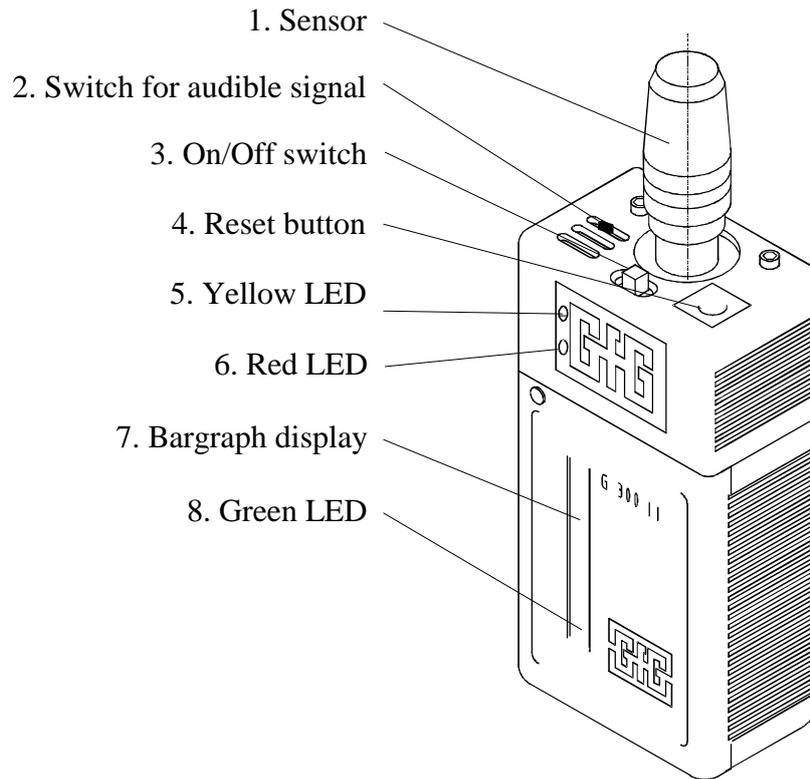

Fig. 1
1. Bring the On/Off switch (fig. 1, pos. 3) in position "ON".
2. Push the reset button (fig. 1, pos. 4).
Rising or falling gas concentrations are indicated acoustically by faster or slower rhythmic signals. The red LED (fig. 1, pos. 6) flashes with the same frequency. The audible signals allows leak detection without keeping an eye on the display. The visual indication supports the audible signal in noisy environments.
To cover the wide detection range of the G 300 II from a few ppm up to high ppm concentrations for leak detection, push the reset button (fig. 1, pos. 4) to give the signal a new starting point: